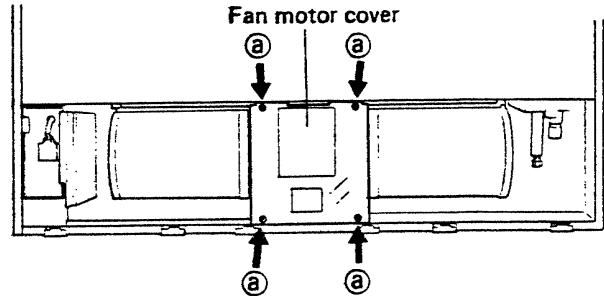

Fig. 7
- 3) Remove the four screws (a) fixing the fan motor cover. Fig. 7